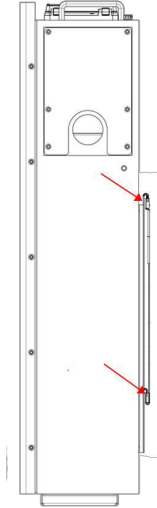

Figure 5-3
- g)Carry the battery and holding it, Fix the battery on the plate after fixing the hanging plate to the wall. Ensure that the upper and lower positions of the battery backplane hook are accurately buckled on the hanging plate, as shown in Figure 5-3.